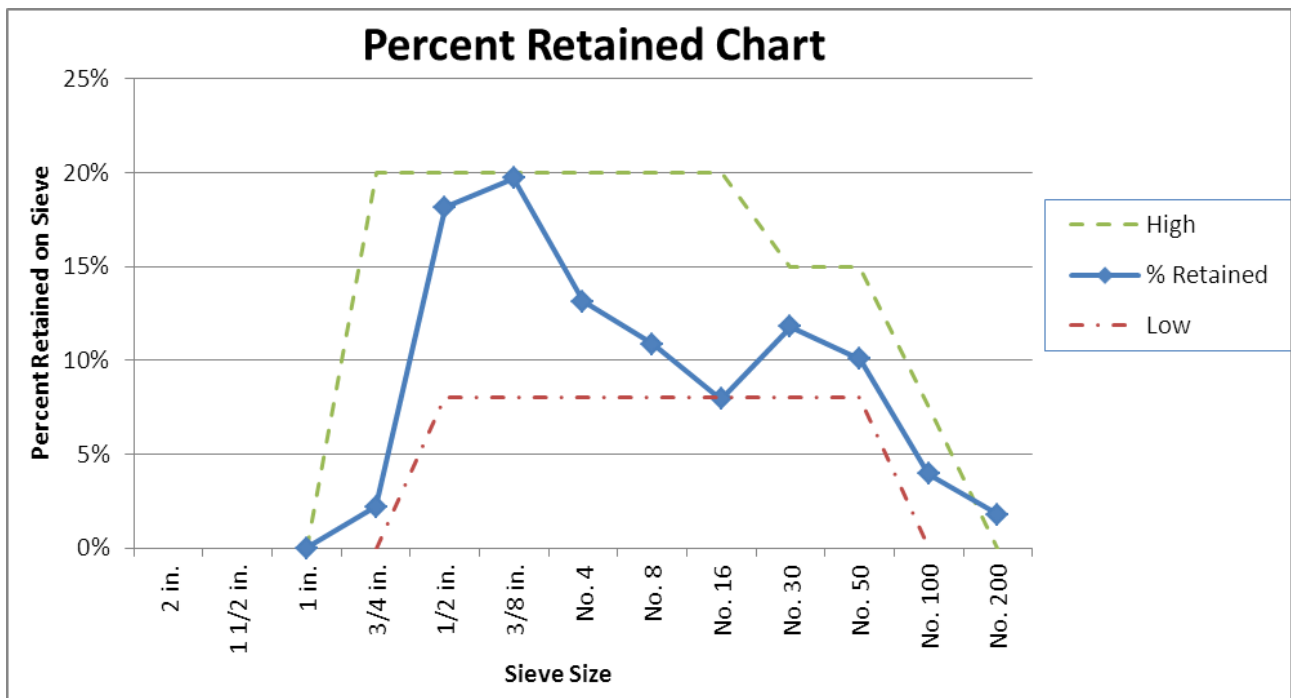

Figure 3: Percent Retained Chart
- Percent Retained Chart (Figure 3)
6.3 *Percent Retained Chart*—Create the Percent Retained Chart (Figure 3) by plotting the combined percent-retained (y-axis) vs. the sieve sizes (x-axis). The sum of the percent retained on any two adjacent sieves, excluding the first and last sieve that retains material, must not be less than 13%.